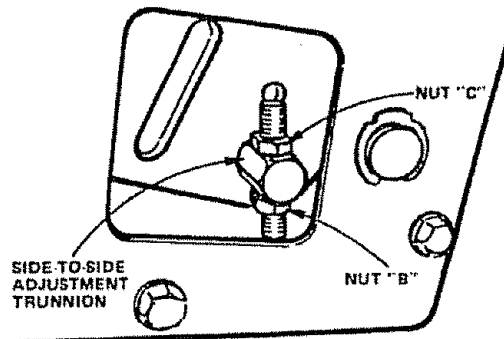

FIGURE 38
- c. If distance "A" needs to be changed, snap out access hole cover on L.H. side above footrest. Use 11/16" wrench on nuts "B" and "C" at side-to-side adjustment trunnion (Fig. 38).